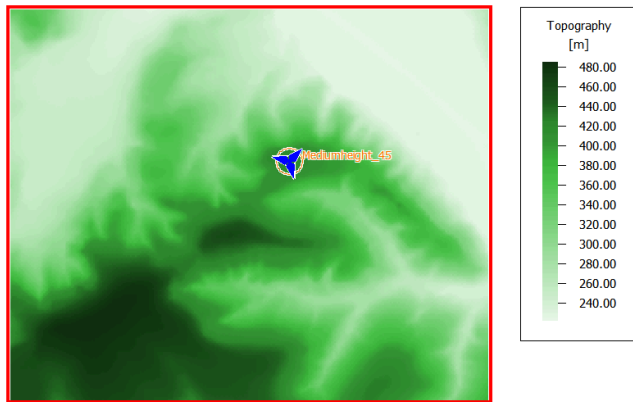

Figure 143: Location of the second cellular base station. The base station is placed on a lower hill.
4. Place the cellular base station with a left-mouse click on a lower hill closer to town in the model, at or near (X, Y) = (516000, 5402142) as indicated in Figure 143.